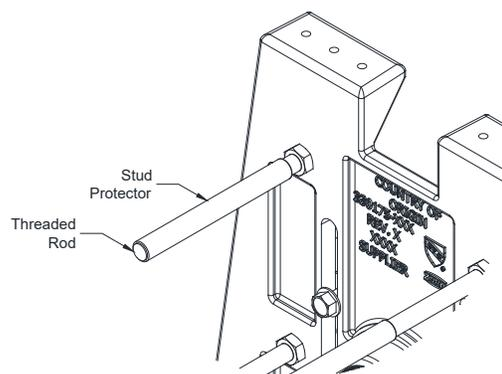

Figure 9
10. Slide plastic stud protectors onto the threaded rods. See Figure 9.